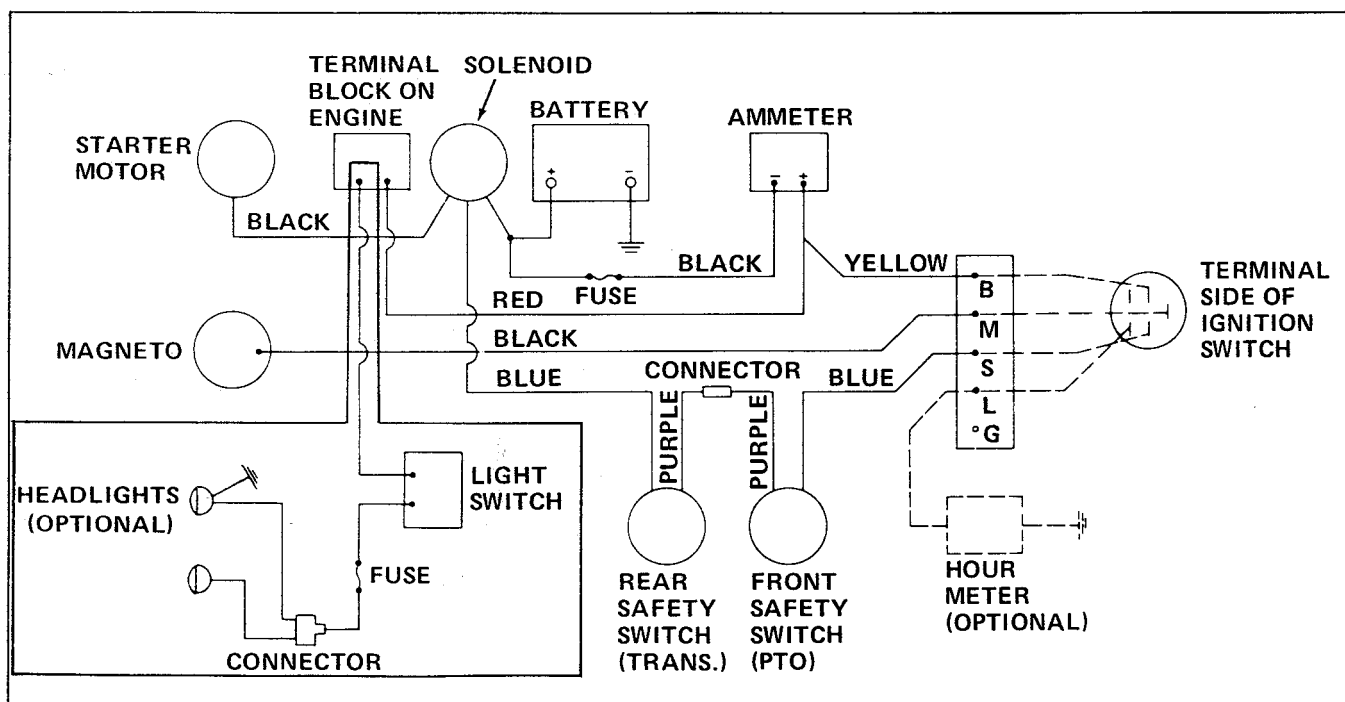

Figure 22. Electrical Wiring Diagram
1. Starter motor does not run.	<ul style="list-style-type: none">A. Gear shift lever not in neutral position.B. PTO clutch lever not in disengaged position.C. Fuse blown and must be replaced.D. Wiring loose or broken. Visually check wiring and replace broken or frayed wires; tighten loose connections. (See figure 22.)E. Battery terminals are corroded and require cleaning.F. Battery discharged or dead. Charge or replace as necessary.G. Solenoid or starter motor faulty. May need replacement.
This section of the manual contains adjustment procedures for the tractor and engine. A simplified wiring diagram of the tractor (figure 22) is provided as an aid in locating electrical problems.
A wiring diagram is provided in figure 22 to aid in troubleshooting and repair of electrical problems.